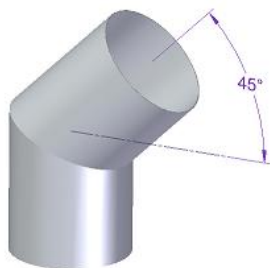
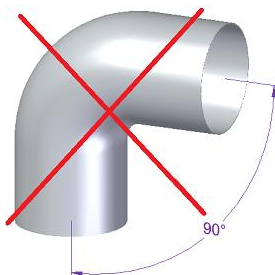

Figure 1 - Correct angle for bends
Figure 2 - Incorrect angle for bends
* Under normal operating conditions, the combustion gas flow should create a draught of -12 Pa one metre above the throat of the flue. For proper installation, at least 2 metres (78,7 inches) of metal flue tube with the same diameter as the unit's smoke outlet should be fitted vertically above the unit. After this section, sections of tubing with a maximum angle of 45° may be used. Figure 1 and Figure 2 illustrate correct and incorrect angles for installing a bend.